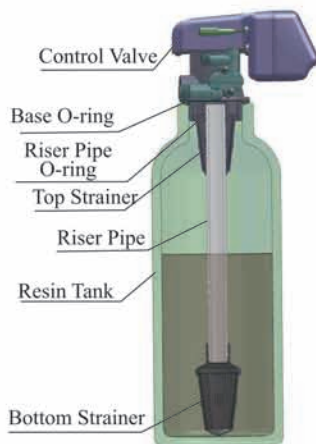

Figure 1-1
a. As the Figure 1-1 shows, select the riser pipe with 26.7mm OD, glue the riser pipe to the bottom strainer and put it into the mineral tank, cut off the exceeding pipe out of tank top opening and make external rounding.